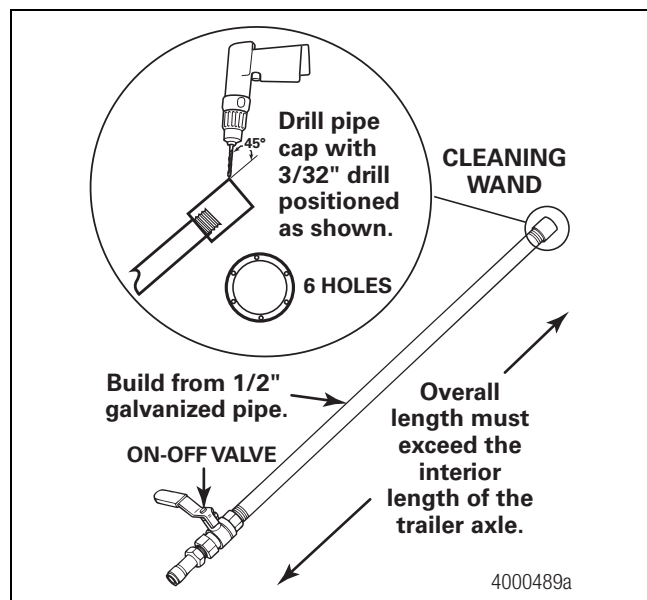
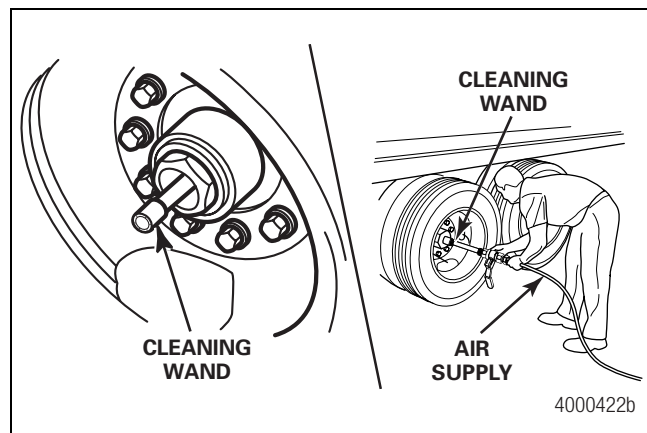

Figure 2.12
Figure 2.13
- Connect a cleaning wand to a high-volume air supply. Refer to Section 8 for information on building a cleaning wand. Figure 2.12. Slowly push the wand through the axle until it exits the opposite end. During this operation, a steady stream of air will be blowing from the axle spindle. Figure 2.13.